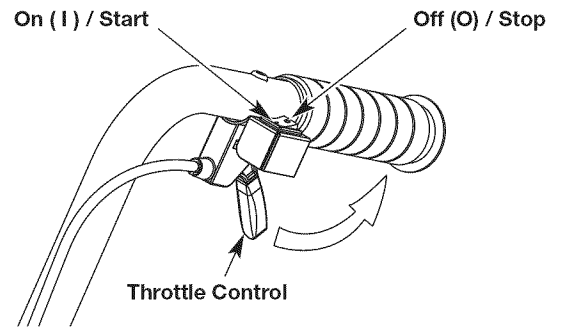

Fig. 6
NOTE: There is no need to turn the unit on. The On/Off switch is in the ON (I) position at all times (Fig. 6).
2. Press and hold the On/Off switch in the OFF (O) position until the engine comes to a complete stop (Fig. 6).